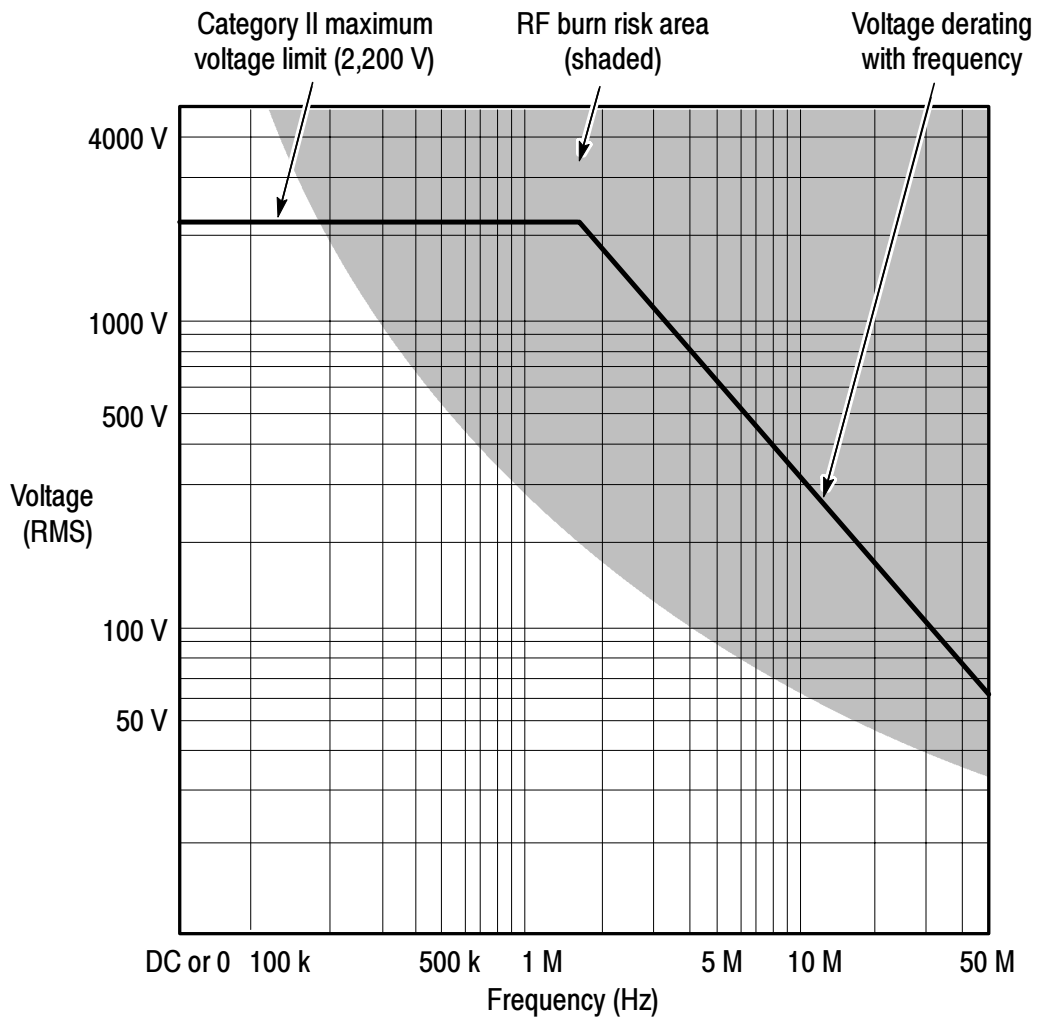

Figure 2: Safety limits (voltage between either input and earth ground)
WARNING. *To avoid personal injury, do not handle the probe leads when the leads are connected to a source that is above the voltage and frequency limits given in Figure 2 on page 13. The area above these limits poses a risk of radio frequency (RF) burns.*
Above 1.5 MHz, the voltage limit decreases as frequency increases. See Figure 2. The input limit applies to both the 100X and 1,000X settings.
Maximum rated input voltage (Refer to Figure 2 on page 13)